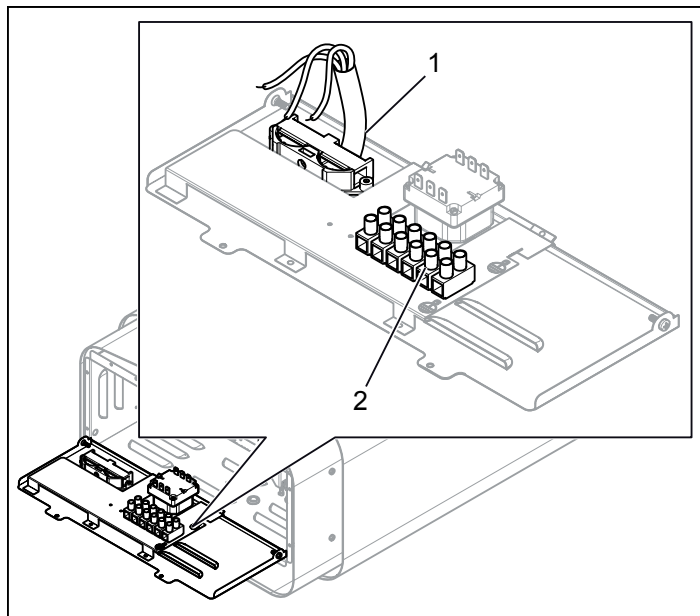

Figure 11: Electrical wiring
3. Connect the electrical cable (1) to the terminal (2) (see Figure 11) according to the wiring diagram (see the Connection/wiring diagram section, page 19).